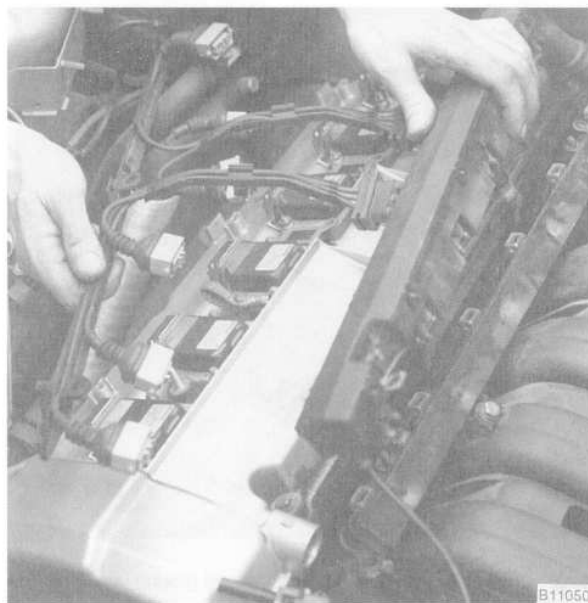

Fig. 11. Main harness being lifted off engine to be placed at base of windshield.
13. Remove the two hold down nuts from the fuel injector harness. Pry back the injector connector retaining clips and lift the entire harness off the engine. See Fig. 11.